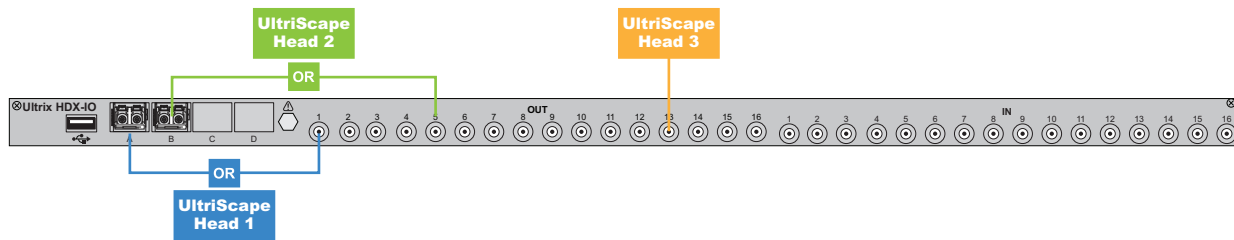

Figure 55 Ultrix Rear Panel — UltraScape Head Mapping for an ULTRIX-HDX-IO Blade
**Figure 55** outlines the mapping of the UltraScape Heads on an ULTRIX-HDX-IO blade.